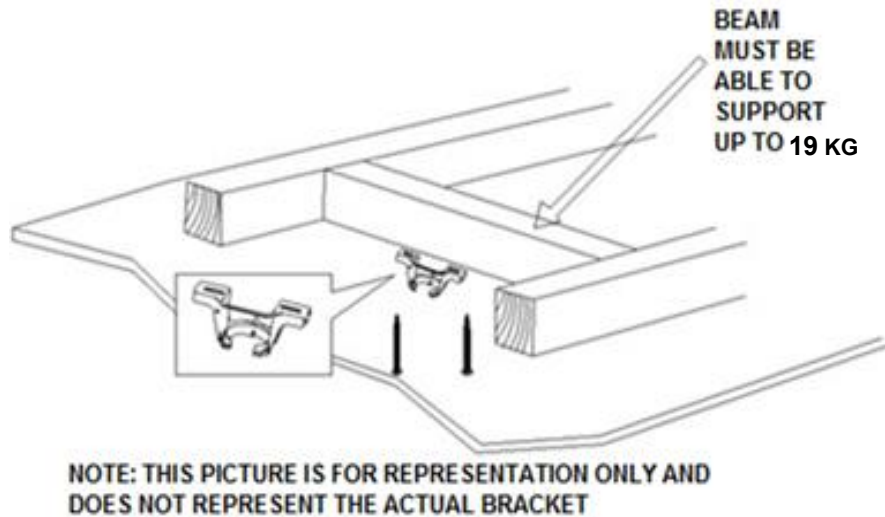

Fig. 2
- Install the hanging bracket to the ceiling joist or structure that is capable of carrying a load of at least 19kg, with two long screws provided. Ensure at least 30mm of the screw is threaded into the support. (Fig. 2)